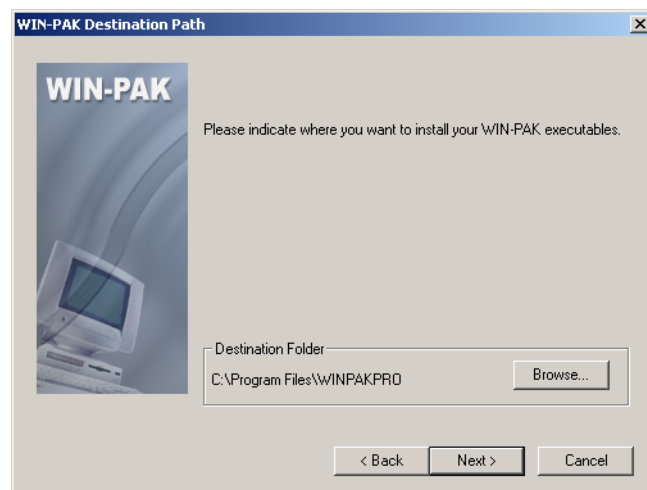

Figure 2-9 Choose Destination Folder
- Click **Next**. SQL Express 2008 is successfully installed. Figure 2-9 appears.
3. Click **Next**. SQL Express 2008 is successfully installed. **Figure 2-9** appears.
1. On the **WIN-PAK Setup Type** screen, select **Complete Installation** and click **Next**. The system checks for SQL Service status and displays the screen shown in **Figure 2-9**.